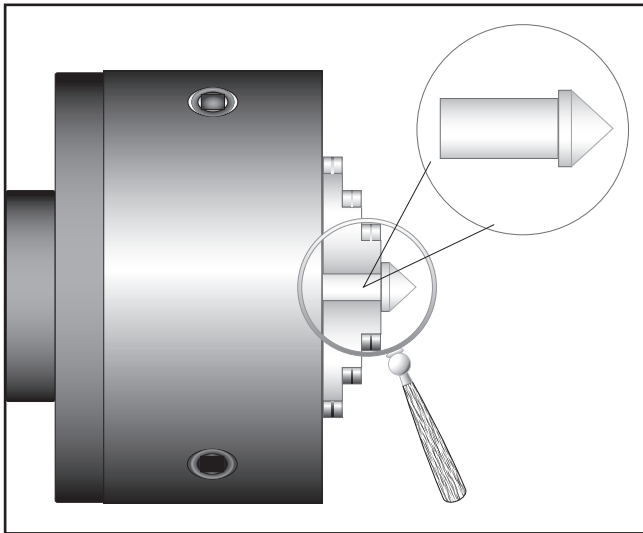

Figure 14. Finished dead center.
2. Make a dead center by turning a shoulder to make a shank. Flip the piece over in the chuck and turn a 60° point (**Figure 14**). As long as it remains in the chuck, the point of your center will be accurate to the spindle axis.